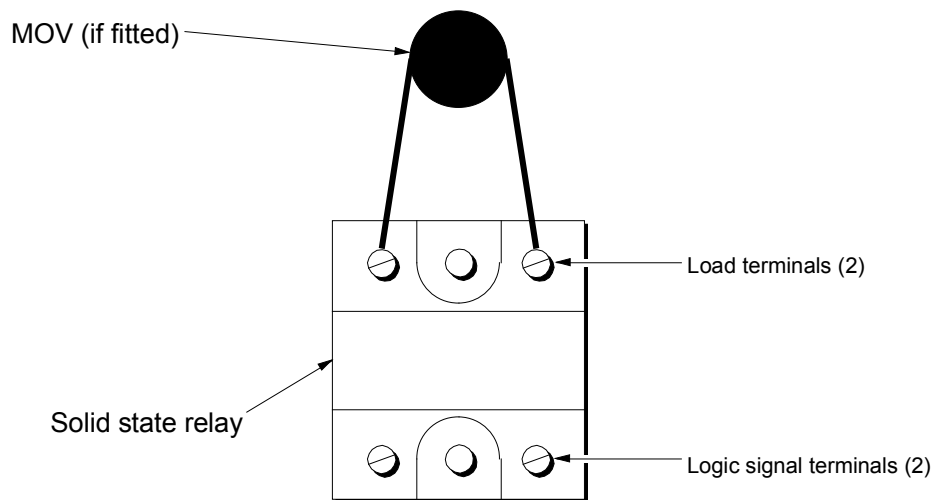

Fig. 6 Solid state relay connections
- 6) Refit the wires as noted in (iii) above. If the replacement solid state relay is supplied with a metal oxide varistor (MOV) it must be connected between the load terminals as shown in Fig. 6. It is not polarity dependent. The MOV protects the SSR from short periods of excess voltage. If the replacement SSR is supplied without an MOV this is because the MOV is built-in on later versions.